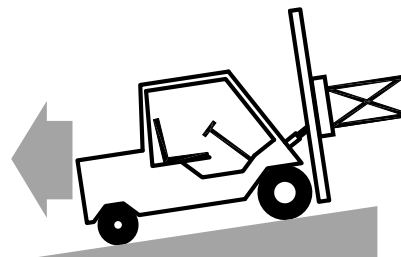

Figure 2-4
- Always back down ramps or inclines. Driving forward down a ramp or incline with a clamped load will lessen the stability of the truck. (Figure 2-4)